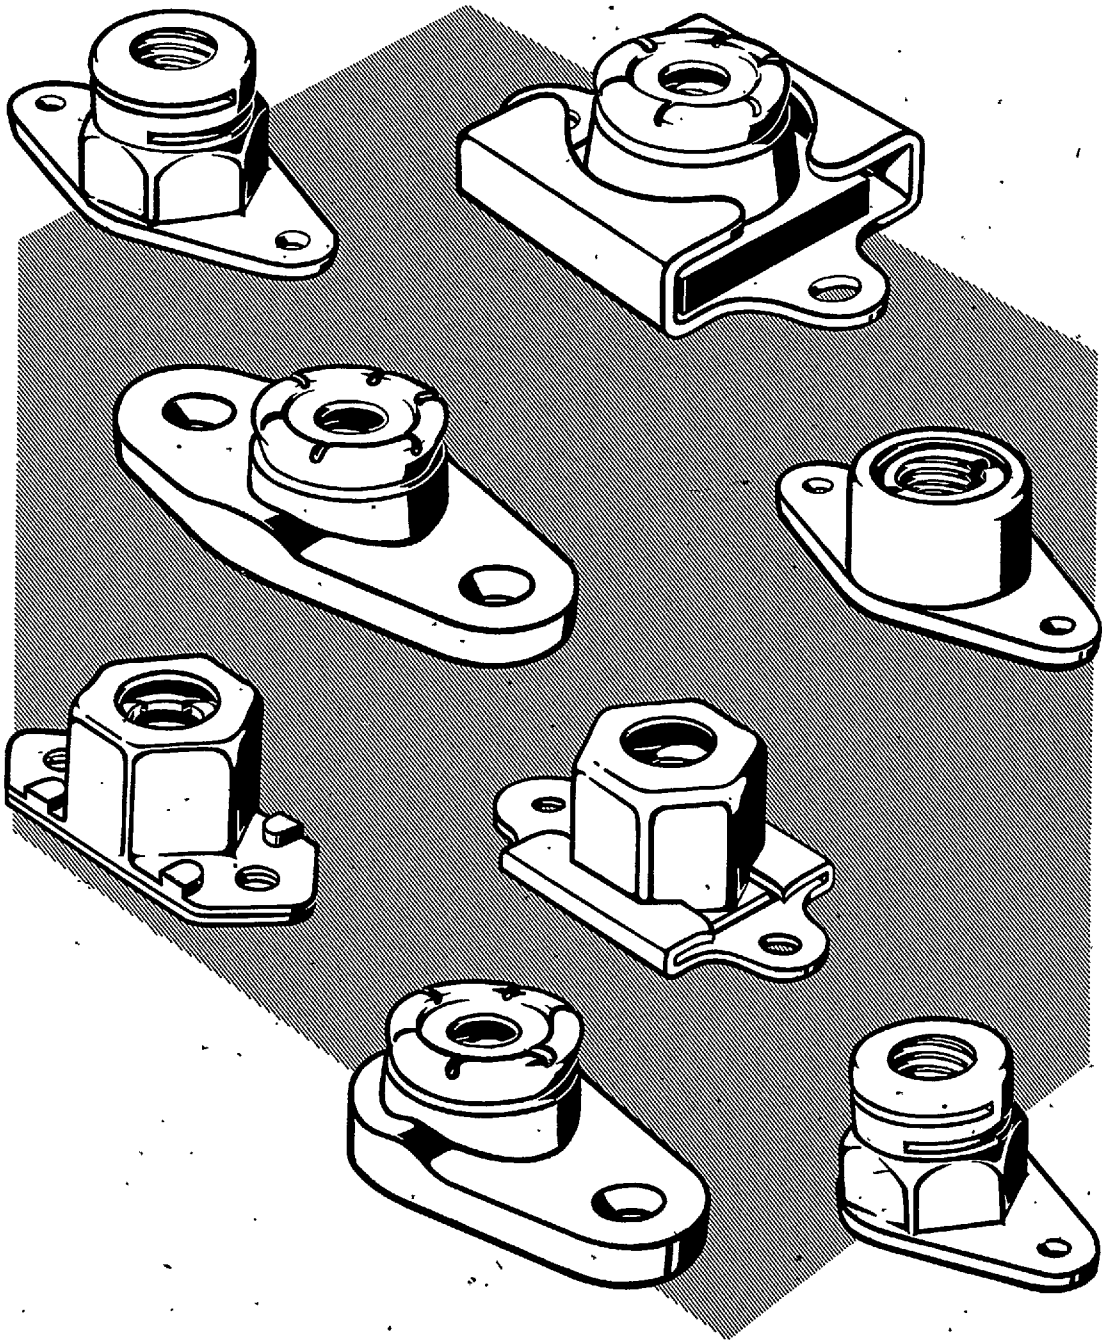

Fig. 7.—Some typical anchorages
10. Some typical anchor plates and anchor cages are shown in fig. 7. The anchor plates are riveted on the back of the component and hold the nut so that the bolt or screw can be inserted from the front. The nut may be either fixed or floating in the anchor cage. A double anchor plate is one which is secured on